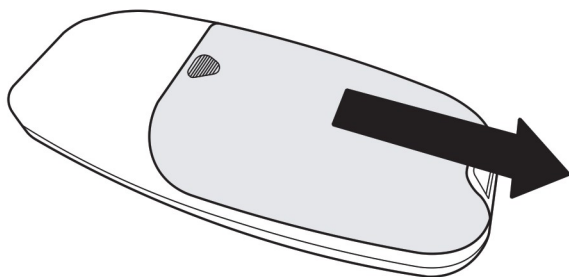

Fig. 15
To finalise the electrical set up, attach the Data Cable (4) between the relevant ports (Fig.15.DAT) in the electronic control units (2). Ensure this is firmly in place.